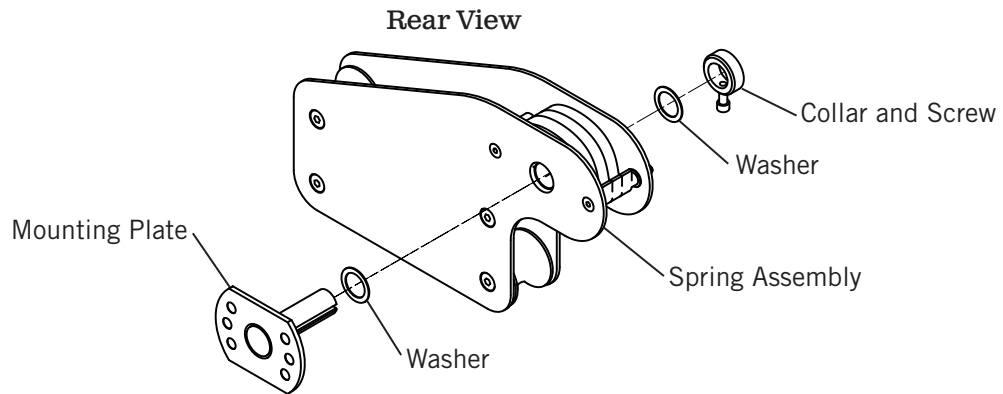

Figure 40
1) See **Figure 40 & 41**. Mount the spring assembly onto the mounting plate and secure with collar and screw.